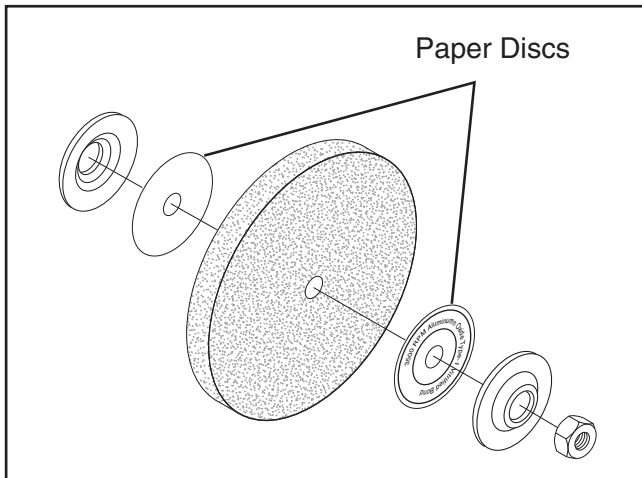

Figure 4. Assembly order for wheel installation.
5. Mount the new wheel as shown in **Figure 4**. Always make certain there is a paper or fiber disc between the wheel flanges and the wheel itself. Tighten the nut snugly but **DO NOT** over-tighten. Over-tightening can crack the wheel.